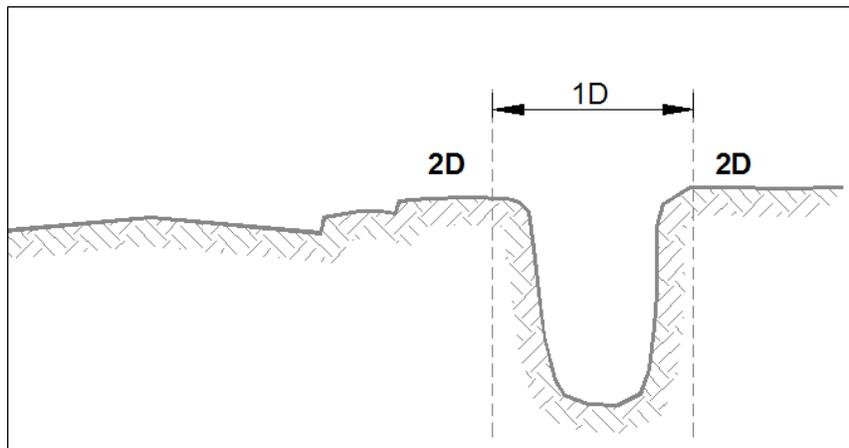

Figure 4 Modelling a channel in 1D and the floodplain in 2D⁴
- Replace, or “carve” a 1D channel through a 2D domain (see Figure 2-1c, and Figure 4).